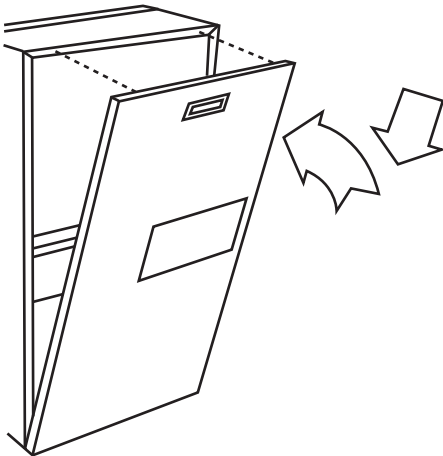

Fig. 19 - Furnace Door Replaced
6. Replace main furnace door. See Fig. 19.